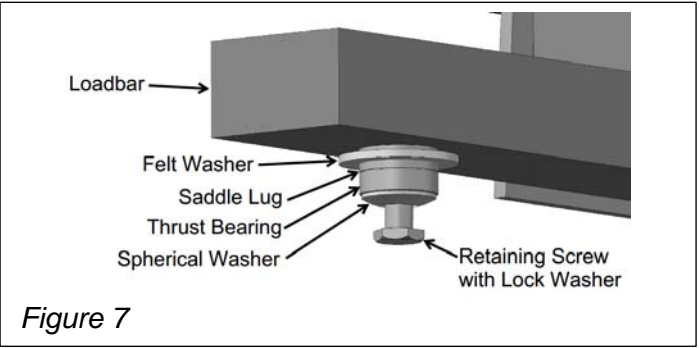

Figure 7
- Figure 7: detail of assembly of felt washer, thrust bearing, spherical washer and retaining screw (components provided with plain trolley assembly)
4. Roll plain trolleys onto each end of end truck, verify spherical washer, thrust bearing and felt washer (dust shield) are in place in (see Fig. 7)
5. Roll plain trolleys onto each end of end truck loadbar, verify spherical washer, thrust bearing and felt washer (dust shield) are in place in (see Fig. 7)